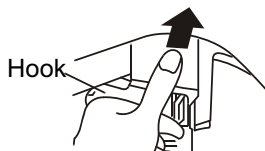

Figure 2
- (1).Install the corrugation pipe.
- (2).Insert the mounting plate at the bottom of the filter into the valve cover.
- (3).Hang up the hook at the left upper side.
- (4).Push the upper part in as indicated in Figure 2.